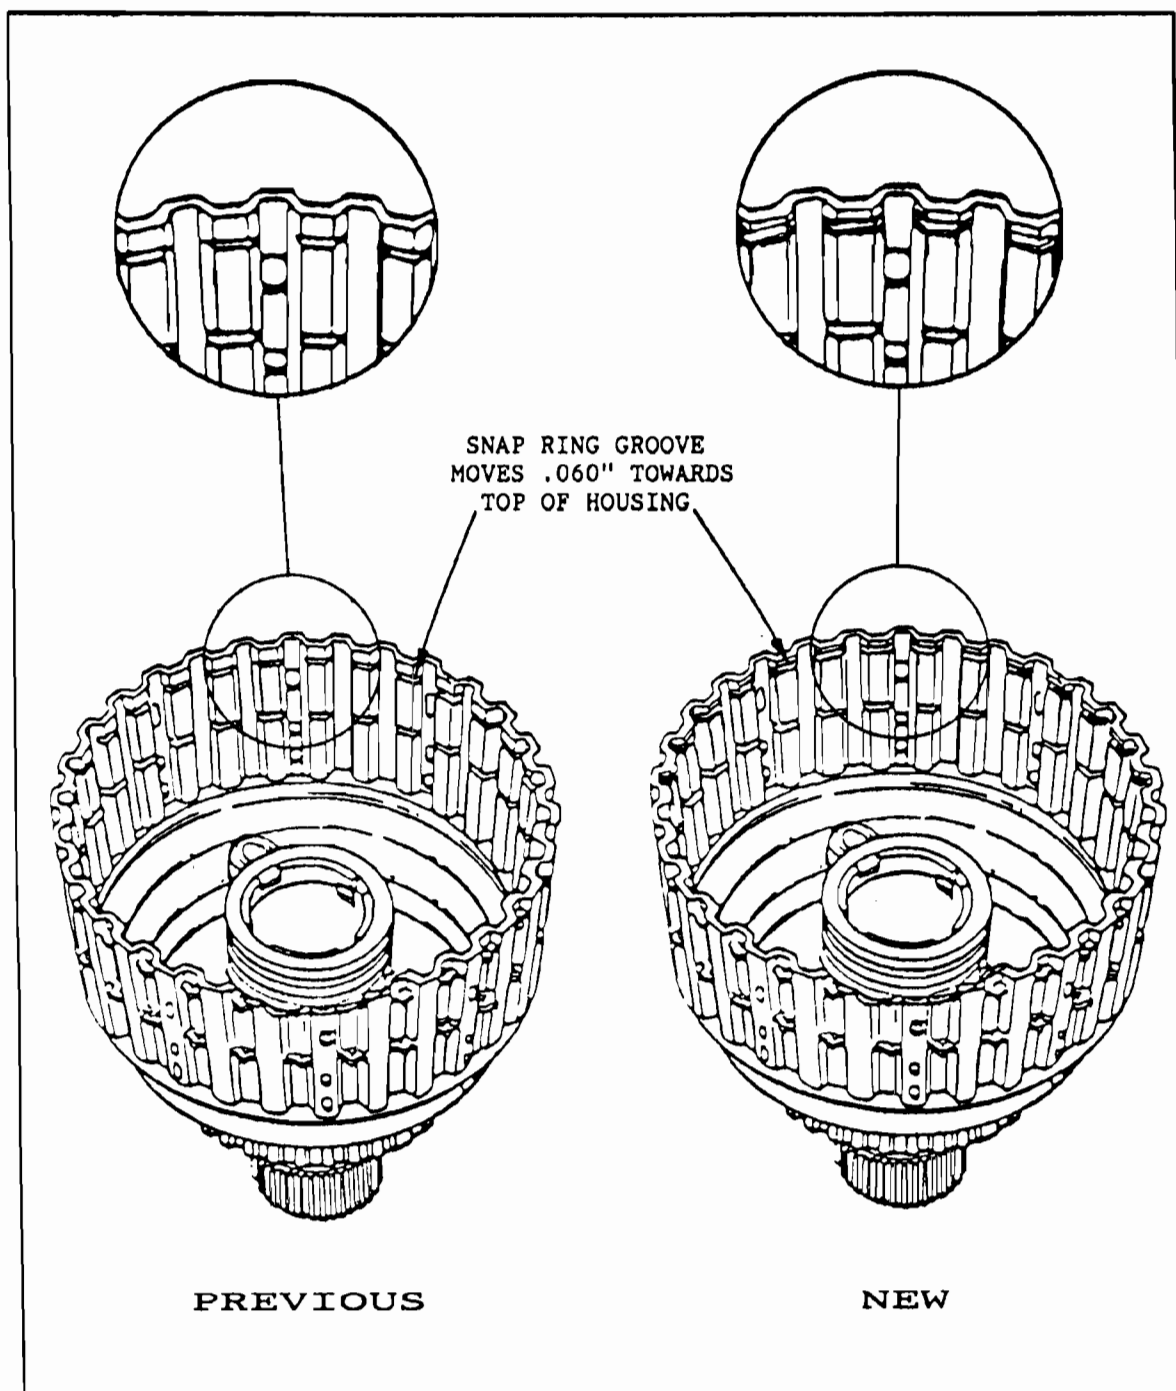

Figure 51
- (2) INPUT HOUSING - Top snap ring groove moves .060" closer to the top of the input housing, to accomodate the added wave plate (See Figure 51).